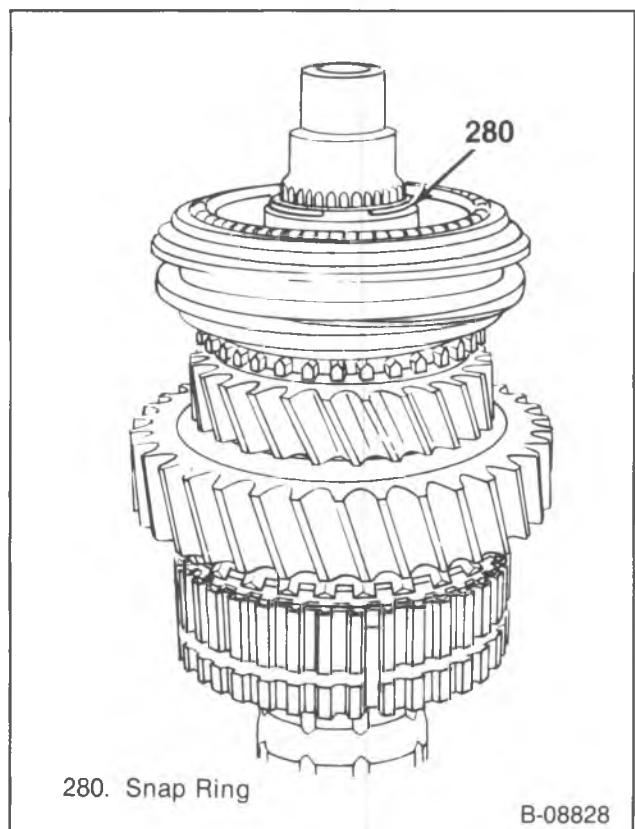

Figure 41—3rd and 4th Synchronizer Hub Snap Ring
10. New snap ring, (figure 41).
11. Reverse gear (211).
12. 1st speed gear (216).
13. Thrust washer (217).